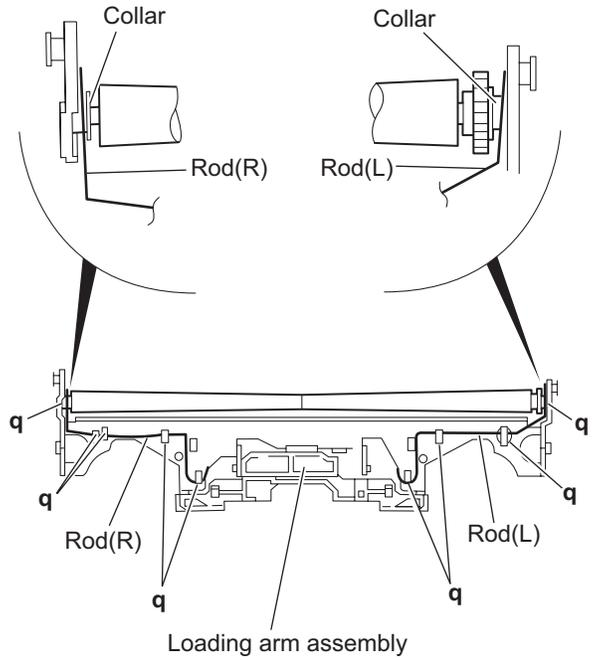

Fig.15
3.2.8 Removing the rod (L)(R)/roller assembly (See Fig.15 and 16)
- Release the rod (L) and (R) from the joints **q** at the bottom of the loading arm assembly (See Fig.15.)
After attaching the loading arm assembly to the roller assembly, attach the rod (L) and (R). Attach the rods to the right and left collars of the roller. (See Fig.15.)
When reattaching the rod (L) and (R) to the loading arm assembly, engage each joint as shown in Fig.15. As joints **q** of the rod (L), let the rod through **q** before reattaching it.